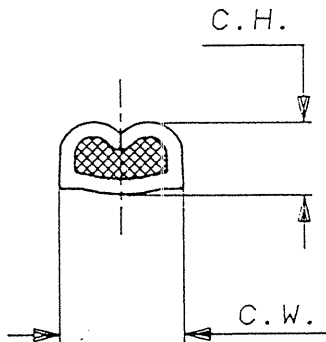

Fig. 7
3.1 For applicator crimping see Fig. 7.